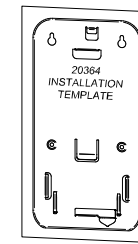

Fig.1
- 4.1 Tape the installation template to the wall at the mounting location (Fig.1).